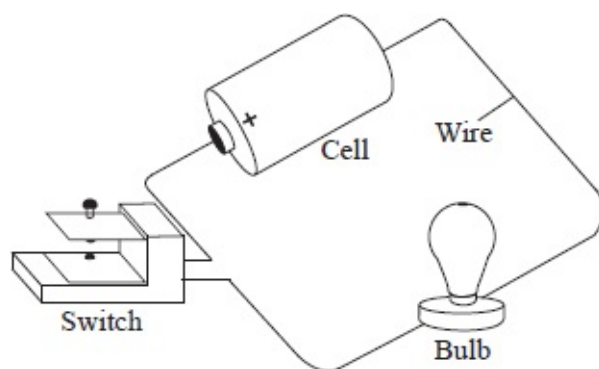

Fig. 10.1: A simple electric circuit
- Connect the apparatus as shown in figure 10.1.
For clarity and neatness, symbols are used in representing components of an electrical circuit. Figure 10.3 shows the conventional ways of drawing the circuit in figure 10.1.